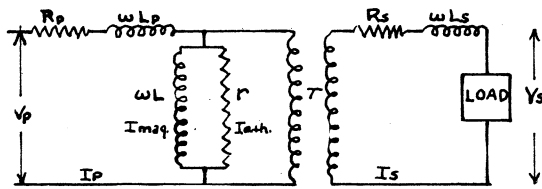

Fig. 3
4. A transformer can be represented by an equivalent diagram given in Fig. 3.